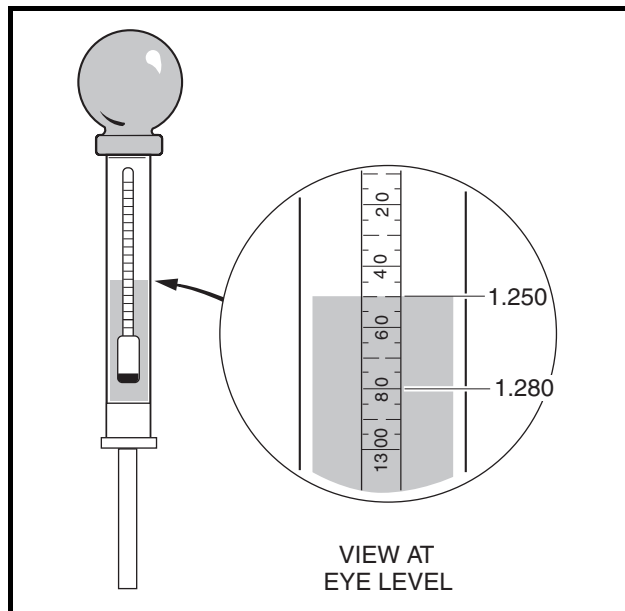

Figure 24-2 Hydrometer
5. Hold the hydrometer vertically, ensuring that the float is not touching the sides of the barrel. Hold the hydrometer at eye level and read the scale at the level of electrolyte (**Figure 24-2, Page 24-4**).